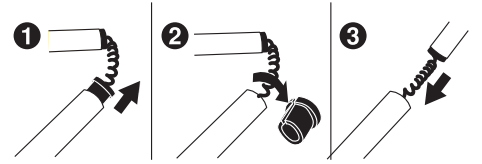

Fig. 1
1. Remove the rubber protector from the end of the upper boom (Fig. 1).